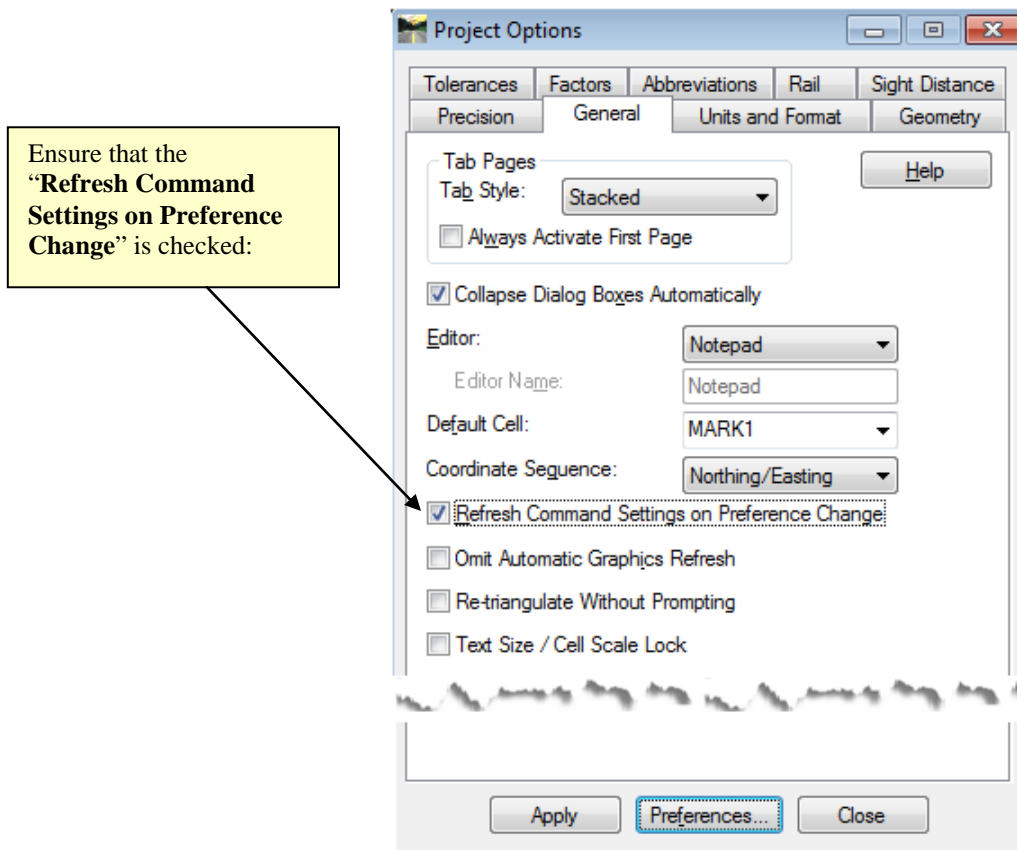

Figure L1-7 Survey Default Settings
- 21.** The **Survey Default** Preference should now correspond to the screen capture depicted in *Figure L1-7* (as shown below). Verify to ensure that the **Project Options** dialog box for Project 1234567 matches the inputs in the screen capture.